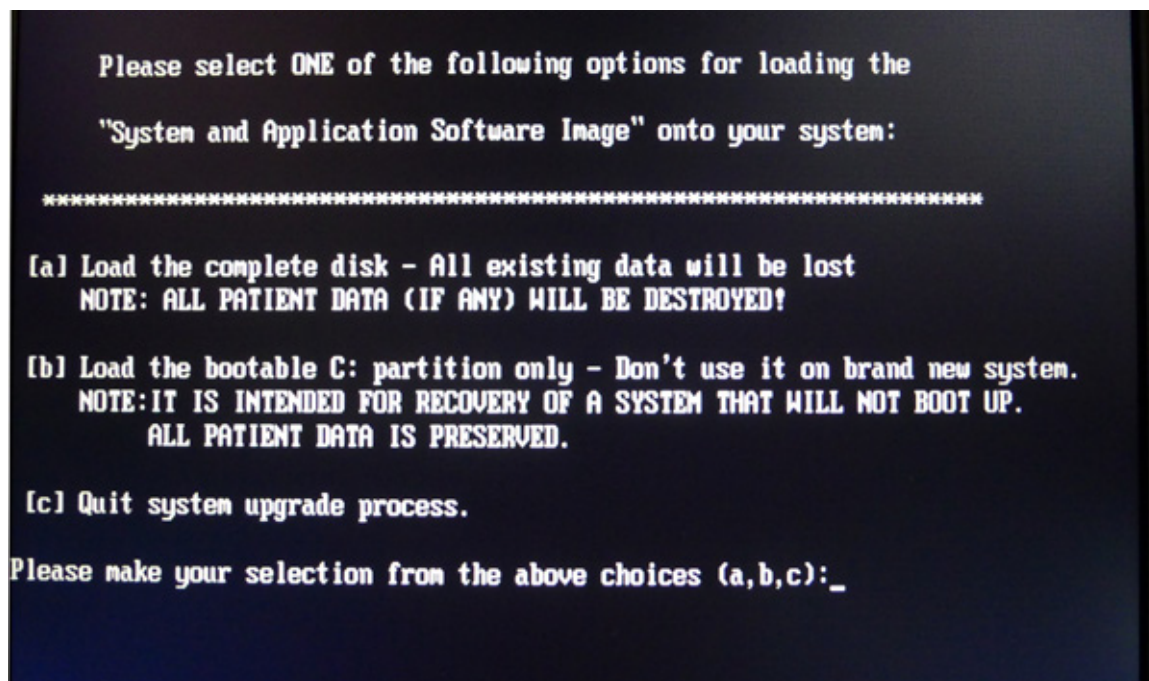

Figure 3-32 Loading selection
- 8.) The system provides three options [a], [b] and [c] as shown in Figure 3-32 on page 3-35.